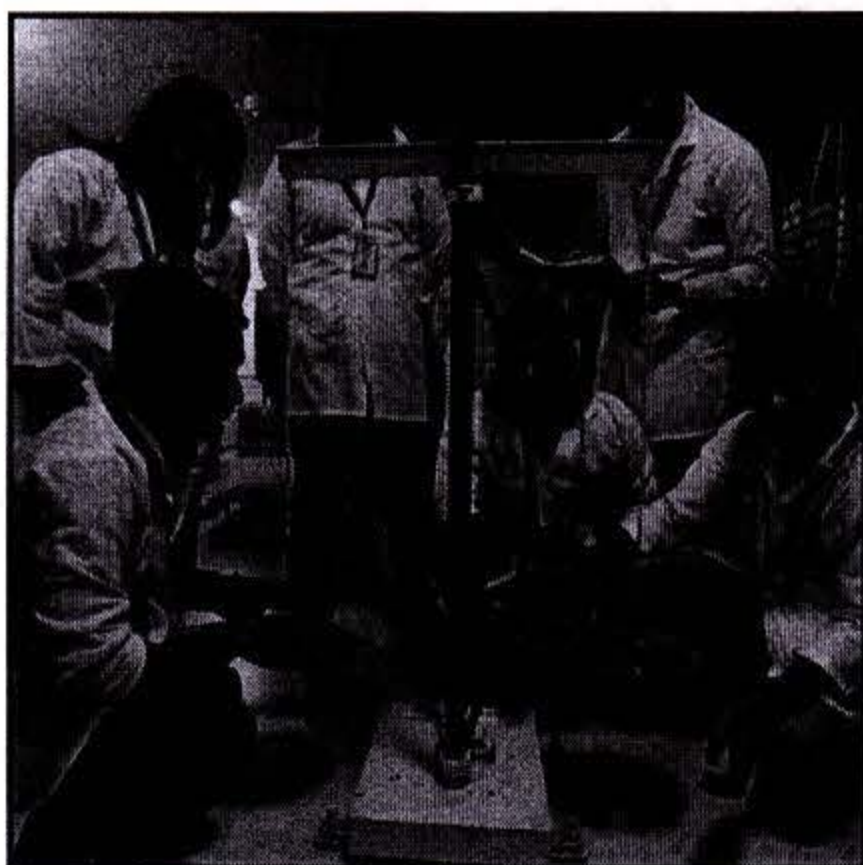

Fig. 1
1. Fig. 1 shows UAP-CE students working at SM Laboratory on the buckling test of a 30"-long perfectly straight simply supported steel column (of 0.20"-diameter). They find the column to buckle at a compressive load 20 lb, when the transverse midspan deflection is 4". Calculate the